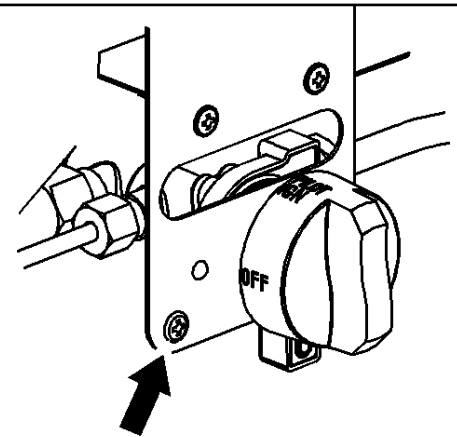

Figure 33.
4. Unscrew and remove the screw that secures the gas tap bracket. This can be found to the bottom left of the control knob (See figure 33).